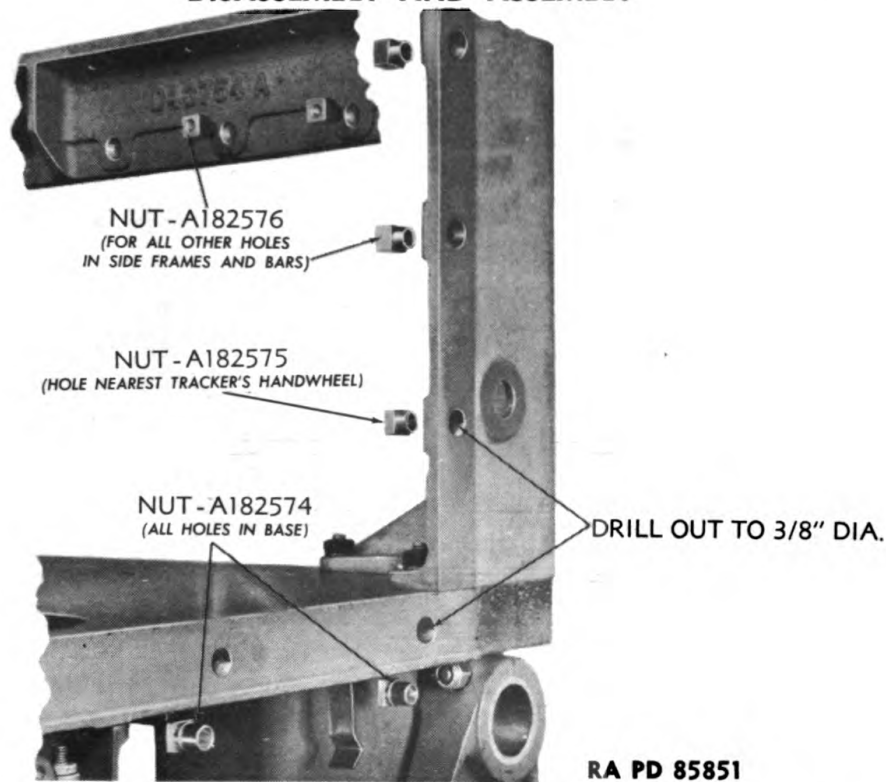

Figure 101 – Old Style Nuts for Cover Plate Screws Can Be Used To Repair Stripped Holes
k. Do not omit any screws or pins in the base or cover plates which might leave an opening for dust or moisture to enter the director. If a cover plate screw hole is stripped, drill out with a $\frac{3}{8}$ -inch drill and insert one of the old-style nuts shown in figure 101. When new dowel pin holes are drilled through the base, the old ones should be plugged. Any chips from drilling or filing must be prevented from getting into the mechanism.
a. There are five pairs of antibacklash gears as described in paragraph 11 c (2). Their effectiveness depends upon being wound to a greater tension than the normal torque they transmit.